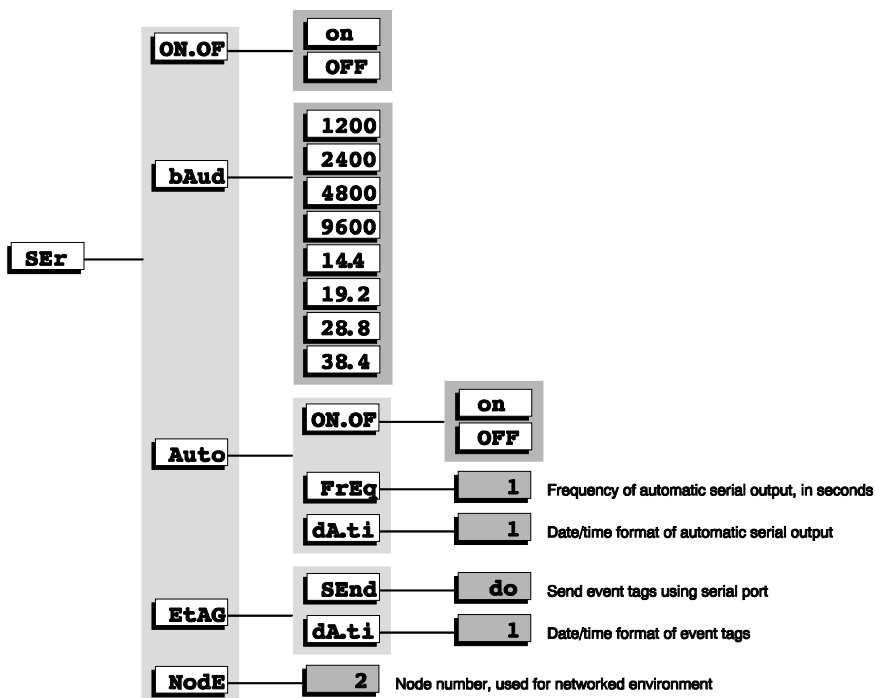

Figure 22 Serial communications menu
6. To enable serial transmission by the analyzer, set the serial ON/OFF switch to ON. Serial communications are on by default. See **Figure 22**.